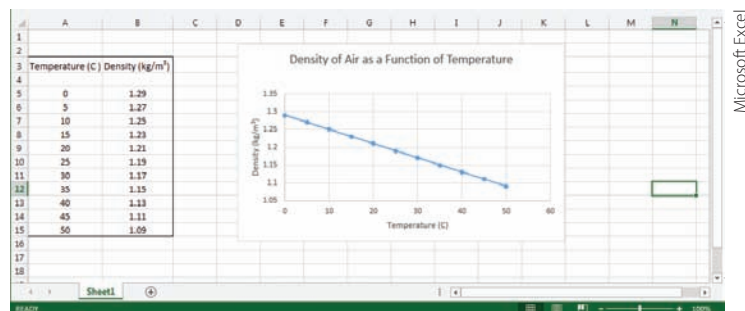

FIGURE 14.18
- Finally, you can place the chart in an appropriate location as shown in Figure 14.18. If for some reason you need to make changes, pick the item you want to change, right click, and a menu will appear.